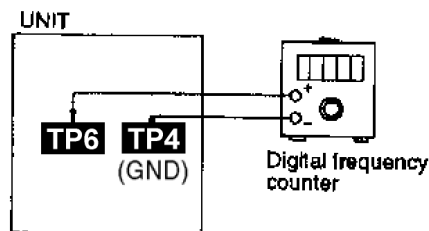

Fig. 13
1. Connect a digital frequency counter (Fig. 13).